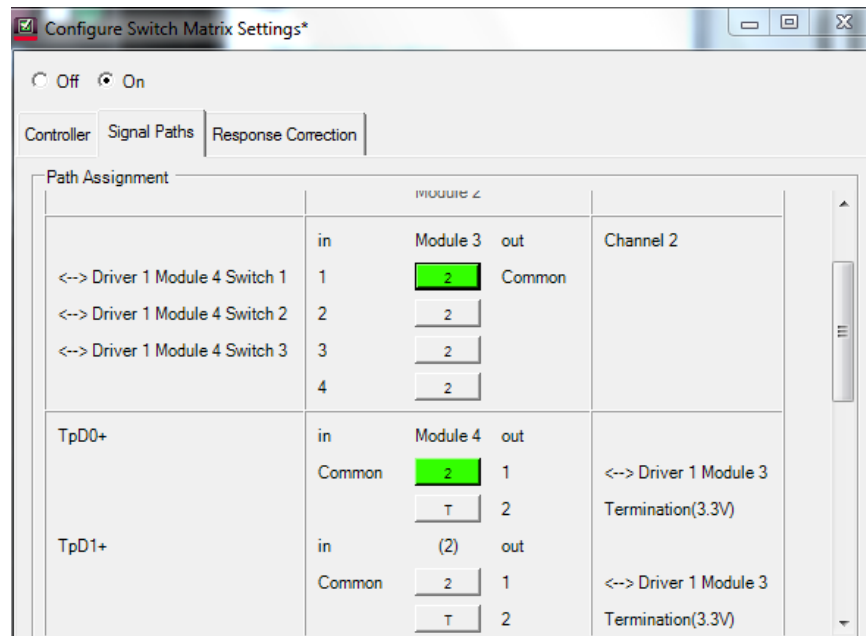

Figure 13 Updated switch matrix
- Click the buttons in the switch matrix you saved to change the currently set switch path. See Figure 13.